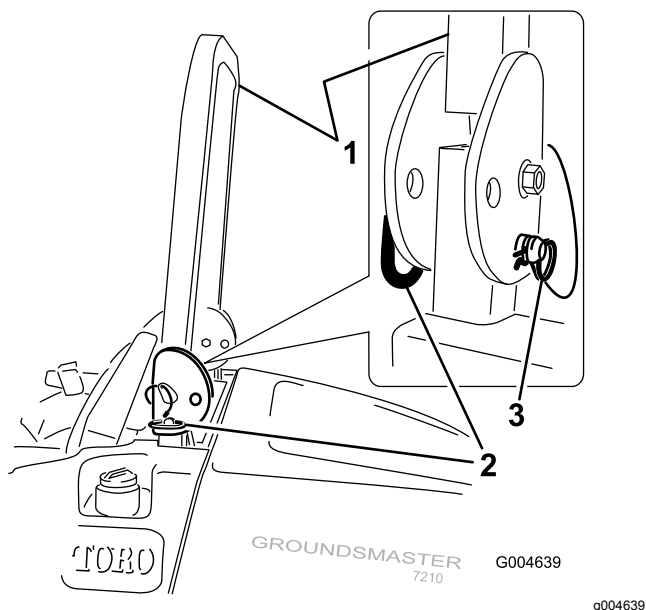

Figure 11
1. To lower the roll bar, remove the hairpin cotter, push the roll bar forward against the springs, and remove the 2 pins (Figure 11).
3. Install the 2 pins and secure them with the hairpin cotter pins (Figure 11).
4. To raise the roll bar, remove the hairpin cotter pins and remove the 2 pins (Figure 11).
5. Raise the roll bar to the upright position and install the two pins and secure them with the hairpin cotter pins (Figure 11).